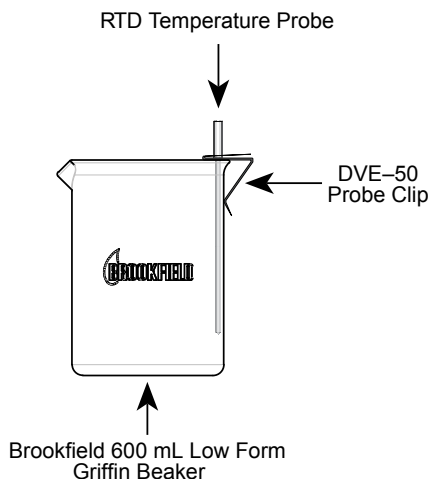

Figure J-3
*Note:* All Viscometer/Rheometer models — except LV — use the Probe Clip as shown in Figure J-3.
Figure J-3 shows the Probe Clip mounted in a 600 ml low form Griffin beaker. This mounting may be used with LV, RV, HA and HB series instruments.